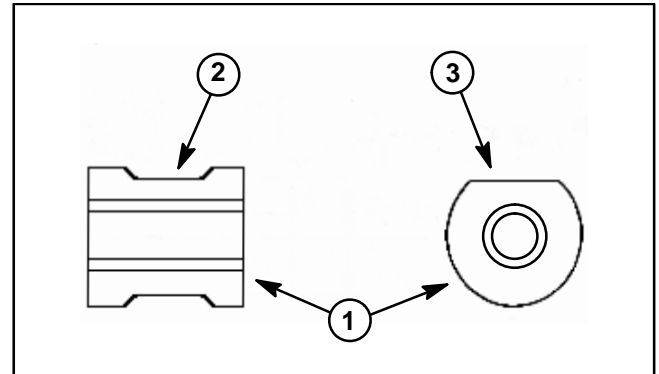

Figure 33
4. Check the rollers in the spider assembly for binding or wear (Fig. 33). If binding or uneven wear is found, replace primary clutch assembly.